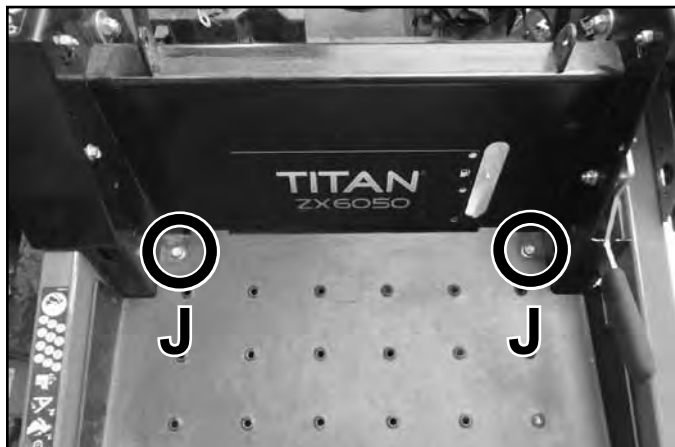

Fig. 024
13. Remove the (2) bolts/nuts (J) that secure the front motion control box to the frame (Fig. 024).